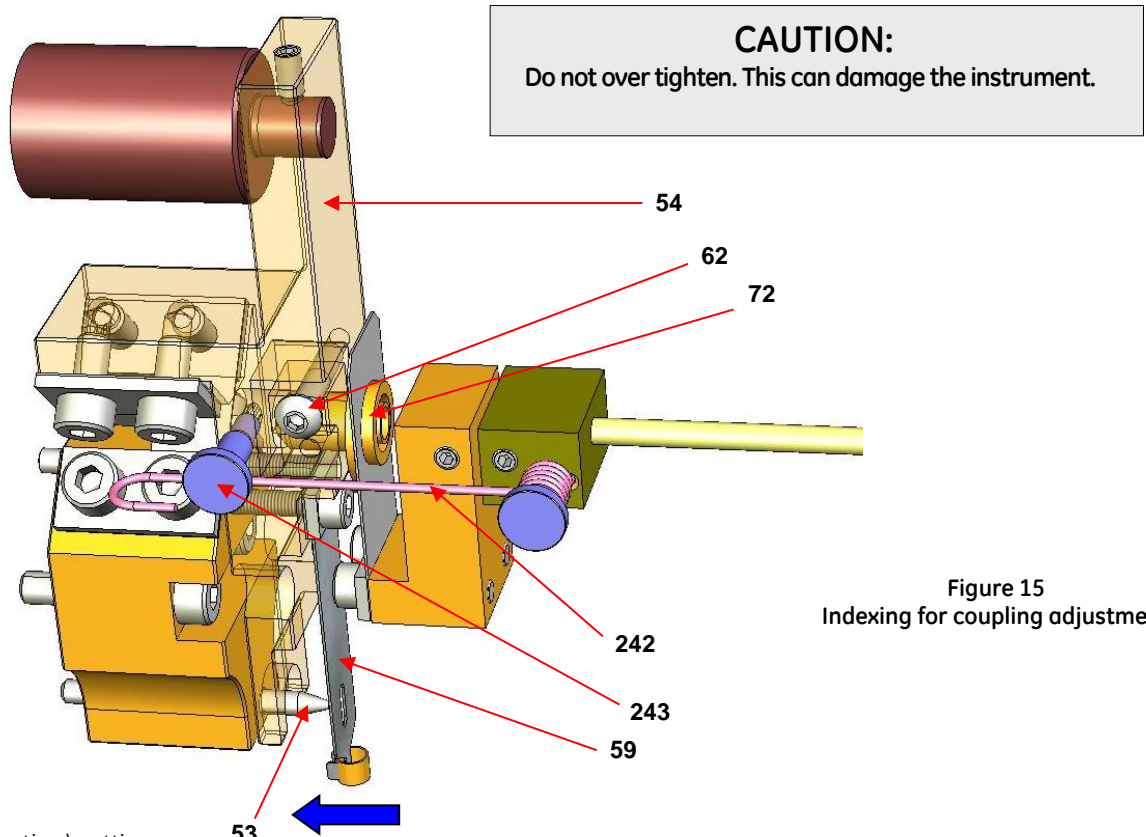

Figure 15
- d. Look through the side orifice and verify that the screw (62) coupling end of the beam (54) is loose and that the spring arm (242) is disengaged from the pin (243). Through the 3/4 " NPT hole at the bottom of the case, push the flexure (59) from left to right with your finger to verify it is possible to move the beam (54). The value displayed should vary accordingly. **Pin (72) must rotate freely inside the coupling end of the beam.**
- e. Look at the mechanism through the lateral orifice, and index the oval hole of the flexure towards the special conical ended pin (53) by bending the flexure (59) toward the case front (see Figure 15). The value read on the LCD must be between -5% and +5%.
- f. While holding the flexure (59) in that position, slightly but firmly tighten the screw (62) using a 2.5 mm Allen wrench.